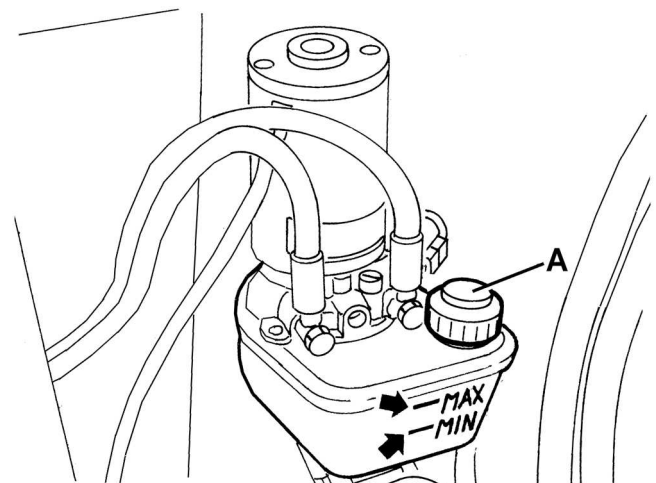

Figure 21
1. Turn the ignition key (61) to "0" and engage the parking brake.
2. Open the battery compartment hood (18) with the handle (41) and fasten it with the support rod (52).
3. Check that the oil level in the tank (51) is between the minimum (MIN) and maximum (MAX) marks shown in figure 21.
4. If necessary, add oil through the plug (A, Fig. 21), using the oil specified in Technical Data paragraph.
5. Remove the support rod (52) and close the hood (18).